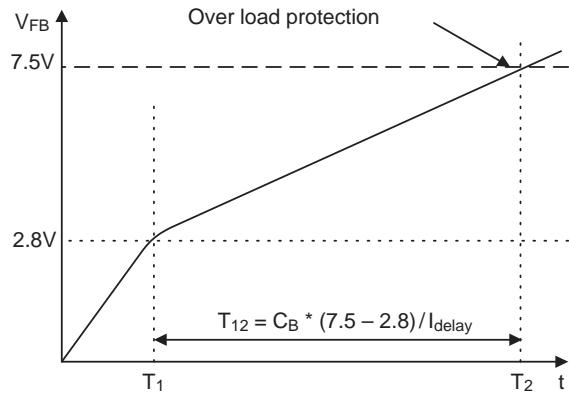

Figure 13. Over Load Protection
4.1 Over Load Protection (OLP): Overload is defined as the load current exceeding its normal level due to an unexpected abnormal event. In this situation, the protection circuit should trigger to protect the SMPS. However, even when the SMPS is in the normal operation, the over load protection circuit can be triggered during the load transition. To avoid this undesired operation, the over load protection circuit is designed to trigger after a specified time to determine whether it is a transient situation or an overload situation. Because of the pulse-by-pulse current limit capability, the maximum peak current through the SenseFET is limited, and therefore the maximum input power is restricted with a given input voltage. If the output consumes more than this maximum power, the output voltage (V_o) decreases below the set voltage. This reduces the current through the optocoupler LED, which also reduces the optocoupler transistor current, thus increasing the feedback voltage (V_{fb}). If V_{fb} exceeds 2.8V, D1 is blocked, and the 5 μ A current source starts to charge C_B slowly up to V_{CC} . In this condition, V_{fb} continues increasing until it reaches 7.5V, then the switching operation is terminated as shown in Figure 13. The delay time for shutdown is the time required to charge C_B from 2.8V to 7.5V with 5 μ A. In general, a 20–50ms delay time is typical for most applications. OLP is implemented in auto restart mode.